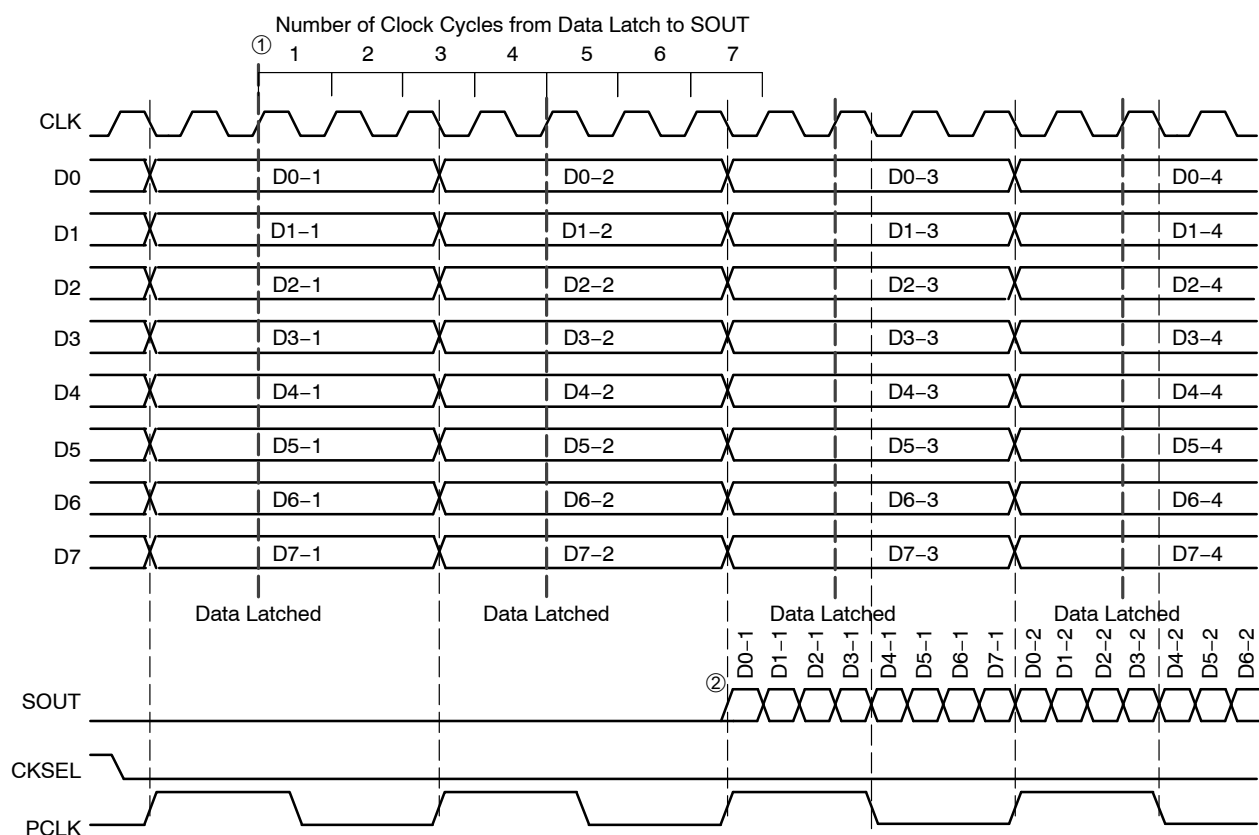

Figure 7. Timing Diagram 1:8 Parallel to Serial Conversion with CKSEL LOW
The CKSEL input (Pin 2) is provided to enable the user to select the serial data rate output between internal clock data rate or twice the internal clock data rate. For CKSEL LOW operation, the time from when the parallel data is latched ① to when the data is seen on the S_{OUT} ② is on the falling edge of the 7th clock cycle plus internal propagation delay (Figure 7). Note the PCLK switches on the falling edge of CLK.